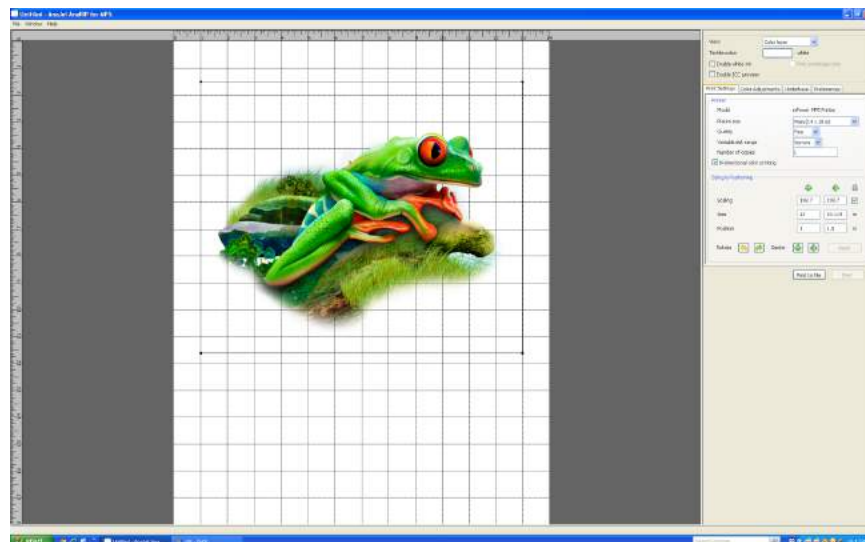

Figure 5.3b: Loading Graphic into RIP
- You should now see your graphic in the preview screen. (see figure: 5.3b)